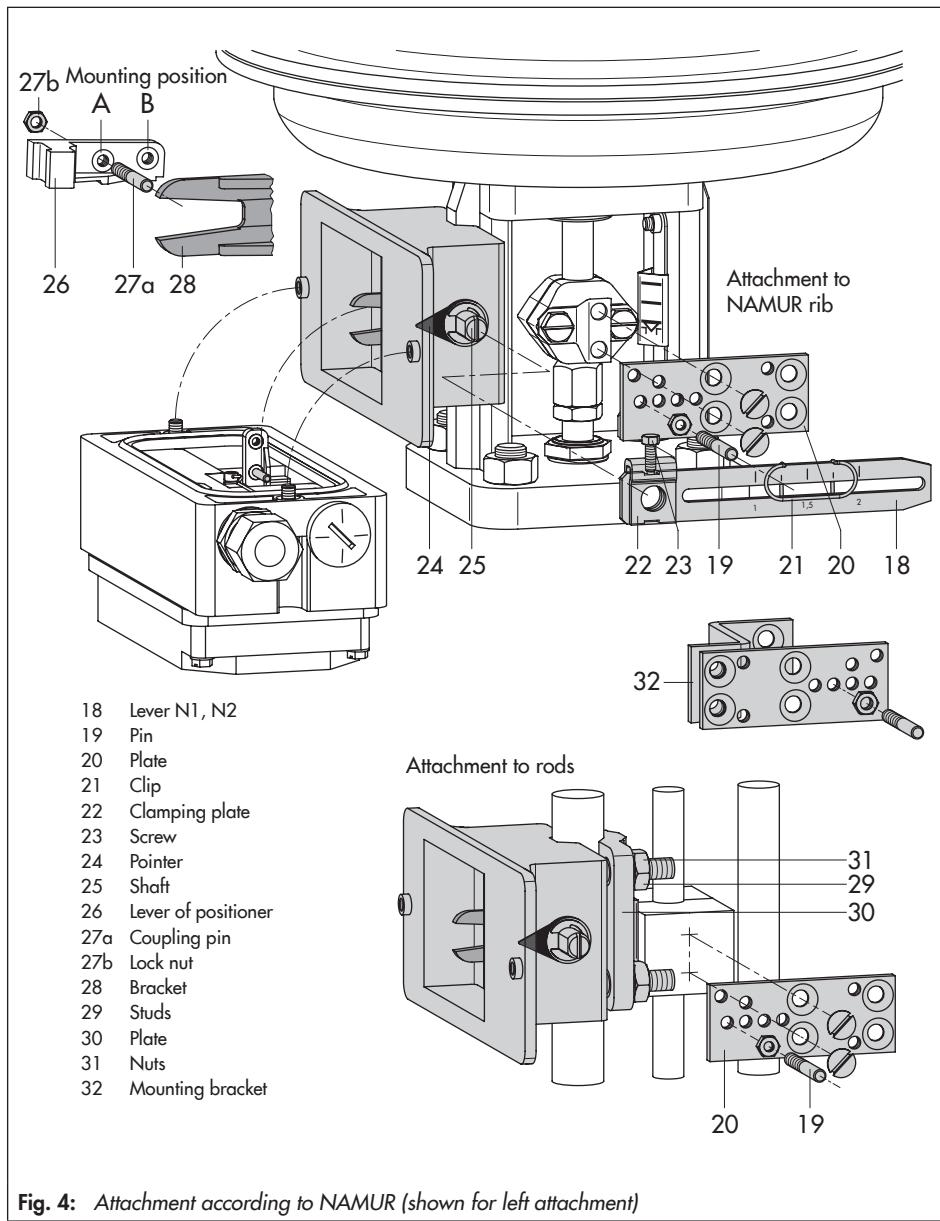

Fig. 4: Attachment according to NAMUR (shown for left attachment)
2. Move the shaft (25) in the adapter housing so that the black pointer (24) matches the cast marking on the adapter housing.
3. Fasten the clamping plate (22) in this position using the screw (23).
4. Screw the pin (27a) into the limit switch lever on the side where the press nut is located. Lock it in position with the hex nut (27b) on the other side, observing the mounting position **A** or **B** according to Table 6 and Fig. 4.